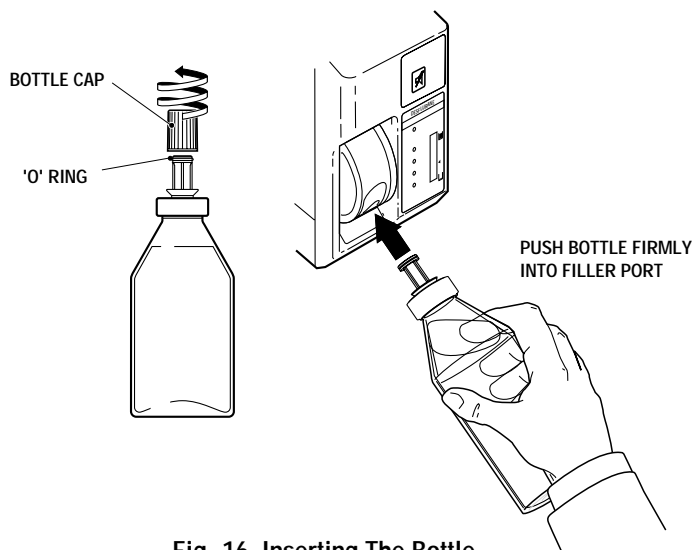

Fig. 16 Inserting The Bottle
2. Insert the bottle probe into the filler port as illustrated in Fig. 16 and then push the bottle firmly against the spring pressure until it is fully engaged with the filler port.